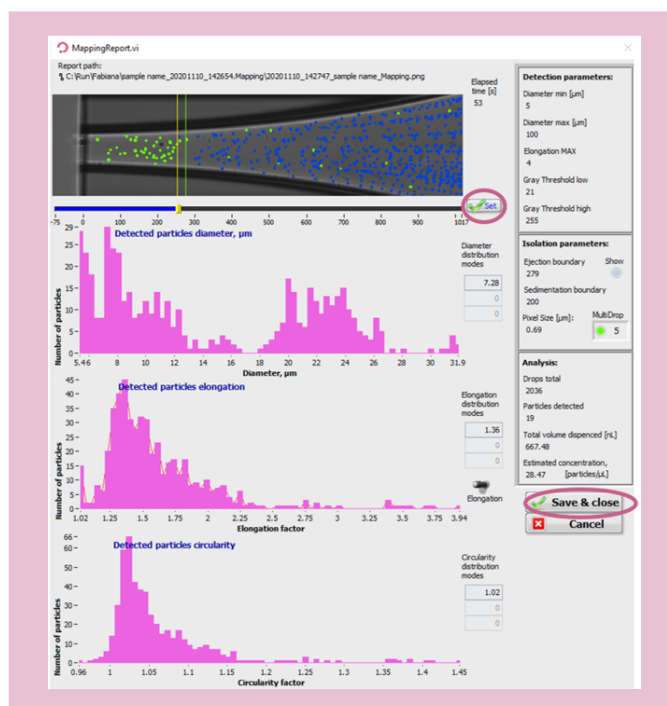

Figure 23. Mapping.
At the end of the mapping process, the ejection boundary is set automatically according to the blue and green dot distribution inside the PDC (Figure 23). Cells that were detected in the location of **blue dots** were subsequently detected again inside the PDC upon next droplet generation. Whereas **green dots** correspond to the last seen location of a cells within the PDC (i.e., upon next droplet generation these cells were ejected from the PDC). Once done, click on **Save & close** button.
**Isolation parameters:** These parameters can be determined from the characteristics of the cells shown in the mapping report (Figure 23) and adjusted as needed to include only cells of interest. These values are critical to ensure satisfactory single cell isolation. All objects that fulfil the isolation parameters and single cell condition will be isolated.